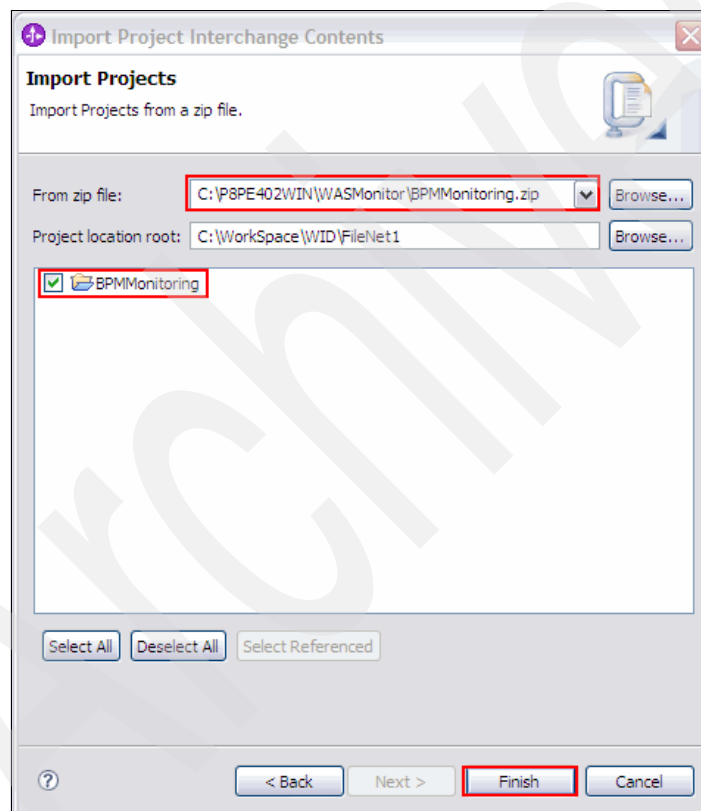

Figure 7-70 Import Project Interchange Contents window
4. In the Import Projects Interchange Contents window (Figure 7-70):